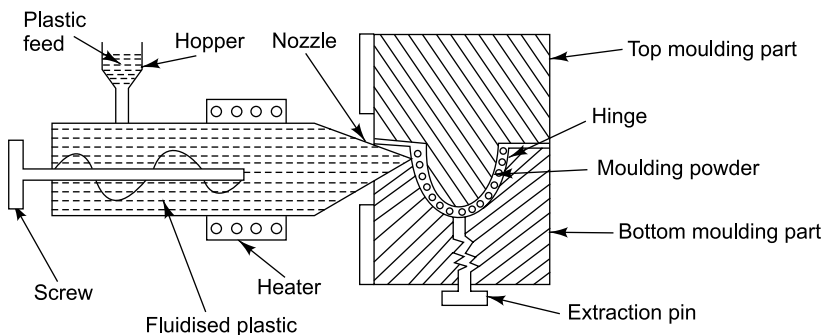

Fig. 2.2 Injection moulding of plastics
- (ii) *Injection moulding*: This method is adopted to the thermoplastic resins. The thermoplastic material is softened by heating and then the hot softened plastic is injected into a mould by means of a screw (Fig. 2.2), where it sets by cooling. After sufficient curing the article is ejected.